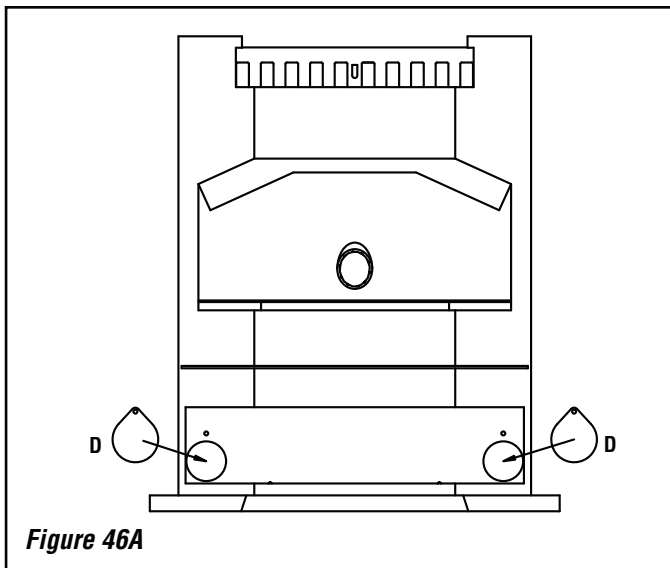

Figure 46A
There are also two more access holes located behind the ash drawer. Remove the ash drawer (see previous page) and loosen the two 5/16" screws with a 1/2" socket or wrench, the screws are shown as D in **Figure 46A and 46B on Page 23**. Rotate the covers over the access holes and use a brush and vacuum to clean the ash. Rotate the covers back over the holes and tighten the screws.
6. Remove the ash drawer (see **Figures 44**) to locate the lower left and right tear drop shaped flue passageways (see D in **Figures 46A and 46B**).